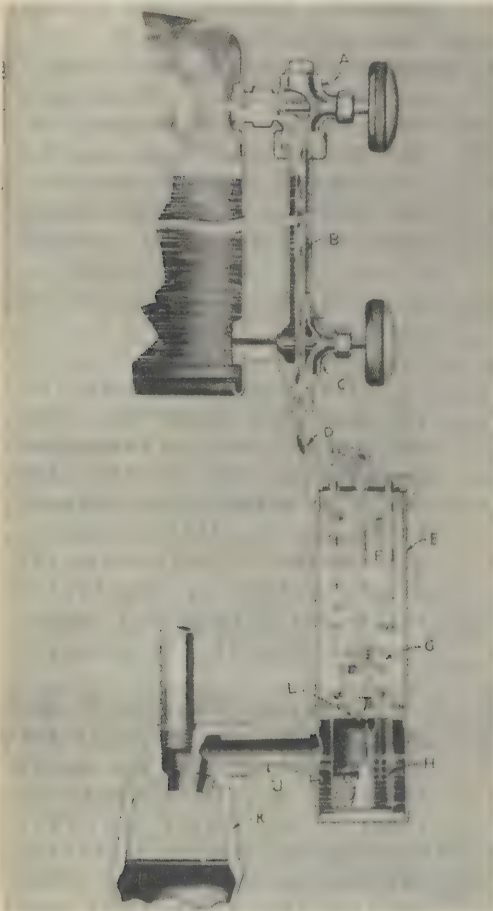
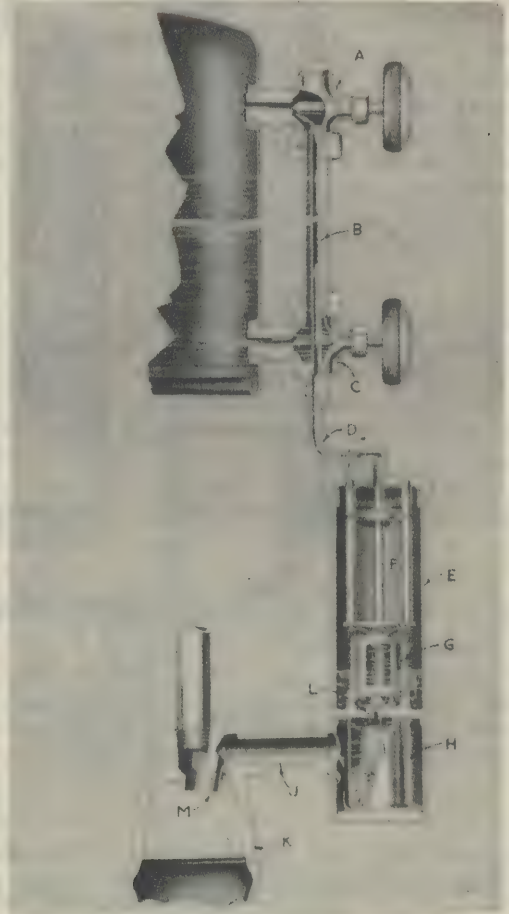

FIGURE 1
FIGURE 2
**MAGATH STERIL-GUARD DEVICE FOR WATER STERILIZERS** - Figure 1 shows the action of the Magath Steril-Guard during the sterilizing period. The air in the reservoir and the steam being generated pass out through the upper gauge fitting (A), down through the metal tube (B), through the condensing chamber (F), through the port (L), through the lower compartment (H), and out to the waste line through the overflow (J). As the steam condenses, it automatically fills the lower compartment (H) with pure distilled water, the excess draining out through the overflow (J). As the water in the reservoir reaches the sterilizing temperature, the thermal element (G) expands and closes the port (L). During the sterilizing period, the periodic operation of the trap element maintains a flow of steam through the tube in the
Figure 2 shows the operation of the Magath Steril-Guard after completion of the sterilizing period when air is admitted to the reservoir; also whenever water is drawn from the reservoir. After sterilization, the thermal element (G) contracts and opens the port (L). Air is drawn in through the open air break waste fitting (K) at (M), through the overflow pipe (J), down through the outer section of the lower compartment, up through the distilled water and porcelain beads in the washing chamber (H), through the port (L) and the upper chamber (F), and up through the tube (B) into the reservoir at the upper gauge fitting (A). Dust and bacteria are removed as the air passes through the porcelain beads and distilled water of the washing chamber, positively preventing contamination of the sterile reservoir by unsterile air. Each time that water is sterilized, the washing chamber of the Magath Steril-Guard is automatically filled with a new supply of pure distilled water and the old is discharged into the waste.
The gauge glass should start to heat, and bubbles form on the inside of the glass as steam begins to form in the tank; and as long as pressure is in the tank, the water in the gauge glass should be about the same temperature as the water in the tank. If the gauge glass fails to heat as described some obstruction is preventing a free flow of steam down through the metal tube in the gauge glass and out through the trap chamber attached to the bottom gauge fitting. An over-expanded or faulty trap element (G), Figure 1, may prevent steam from passing through the chamber. If steam passes out through the bleeder port (M), Figure 2, continuously the trap element (G) is not expanding, or dirt or scale is preventing the proper closing of the port (L). To check trap element, disconnect the tubing (D) between the bottom gauge fitting and the top of the chamber (E) and unscrew the cover. To check the tubing inside the gauge glass, while the tubing from the bottom fitting is disconnected, open the top gauge valve with pressure in the tank. Steam should flow through the port on the lower gauge fitting.